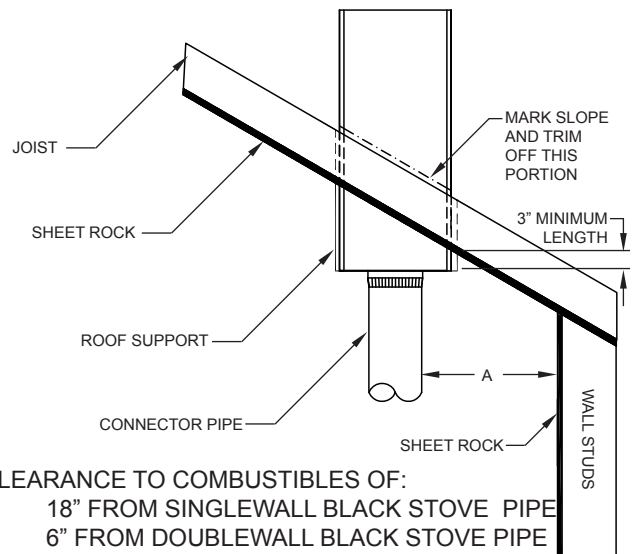

FIG. 13
4. Insert TGRS into framed opening so that the TGRS extends a MINIMUM of three (3) inches below the finished ceiling on the lower side of the installation.
5. With TGRS properly located, mark roof slope on the roof support (See FIG. 13.), Remove from opening and trim off excess metal.
6. Reinsert TGRS and secure in position using a minimum 1" roofing nail, four (4) each per side.